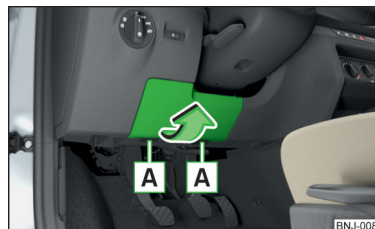

Fig. 291
- Remove the cover of the fuse box » Fig. 291 in the direction of the arrow.